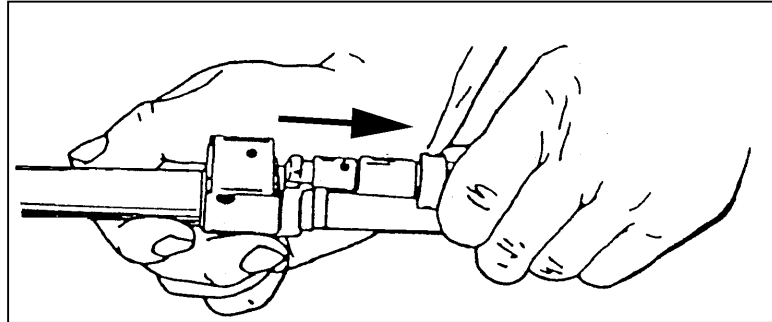

Figure 1-14. Removal of the gas regulator.
- (5) To remove the gas regulator (Figure 1-14), separate it from the gas block.